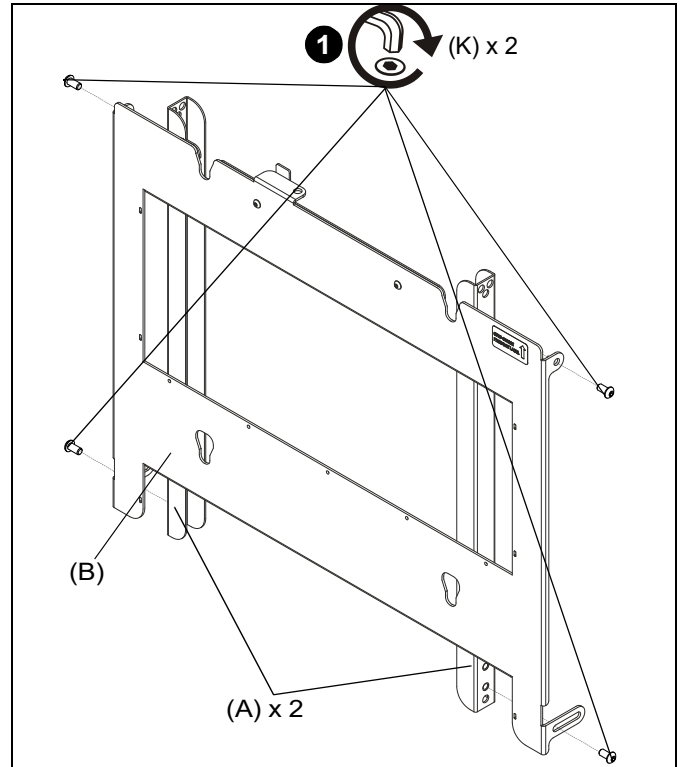

Figure 5
1. Use four #10-24 x 1/2" button head cap screws (K) to secure two outer frames (A) to main assembly (B). (See Figure 5)